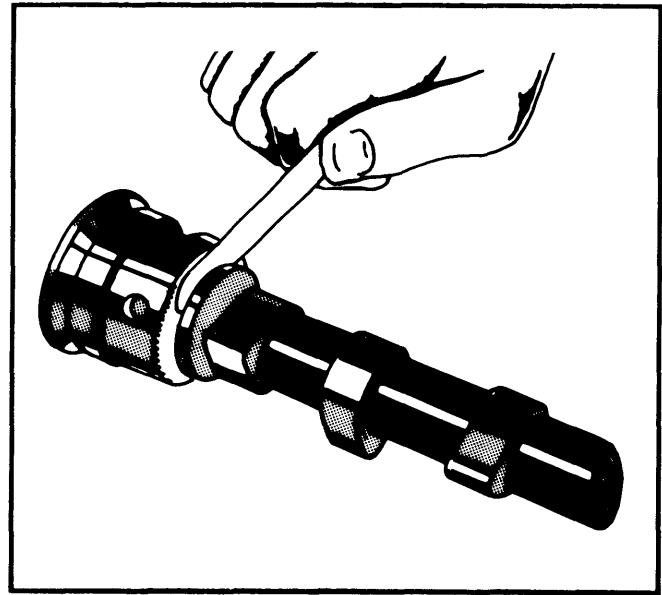

Fig. 8 Measuring Camshaft End Play
2) Bearing on No. 1 journal controls camshaft end play. Width of journal is 1.3385-1.3401" (34.0-34.03 mm). Place bearing on camshaft and install retaining ring. Using a feeler gauge, measure clearance between camshaft flange and bearing. See Fig. 8. Lap bearing to proper fit. The following table lists camshaft bearing journal diameters for standard and undersize bearings: